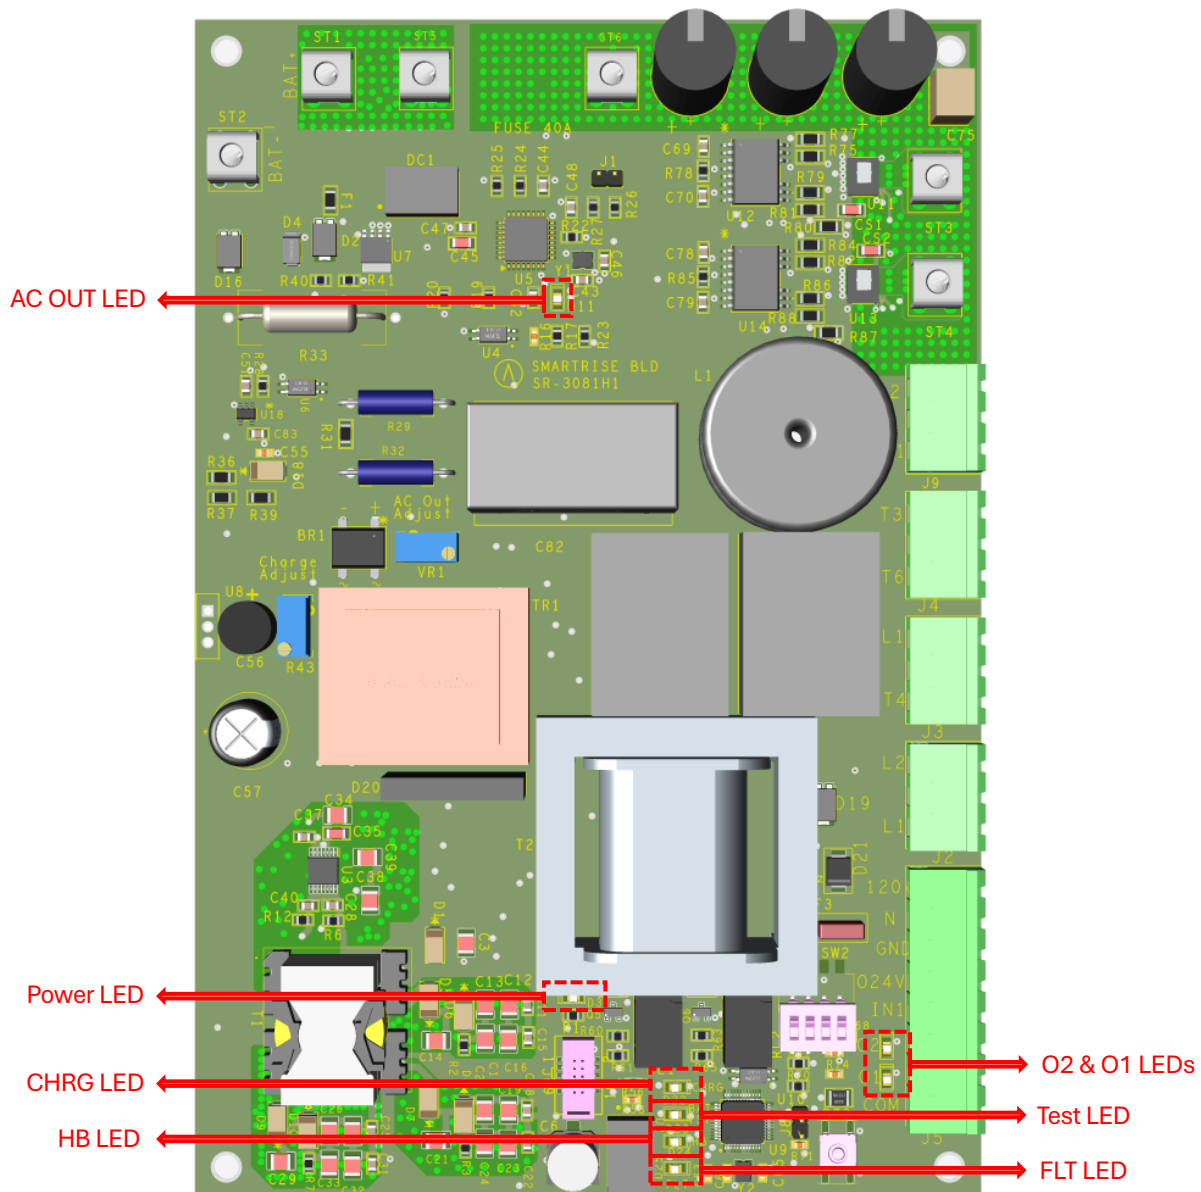

Figure 5: BLD LEDs
- ◆ **FLT LED:** Flashes in cycles to indicate the state and any faults in the BLD [see Figure 5].